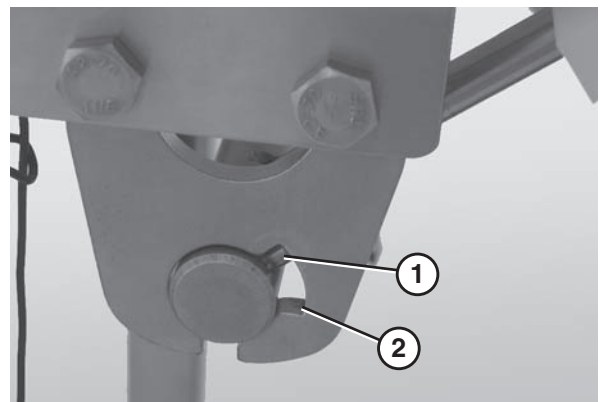

Figure 24
- Insert the notched end of the scraper shaft (**Figure 24, item 1**) so that it is situated within the groove in the mounting plate (**Figure 24, item 2**).